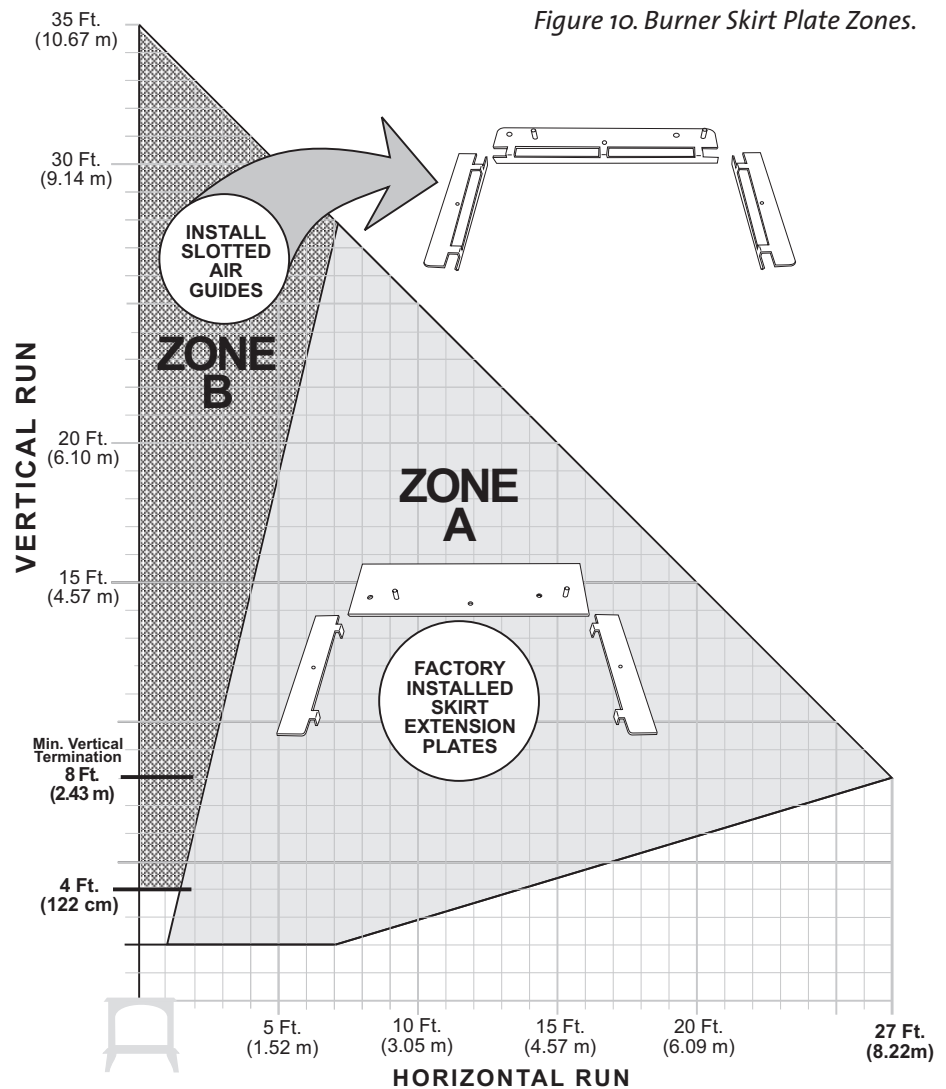

Figure 11.
**Remove the plate from the stove and break off the deflector if a snorkel will not be used.** See figs. 11 and 12.